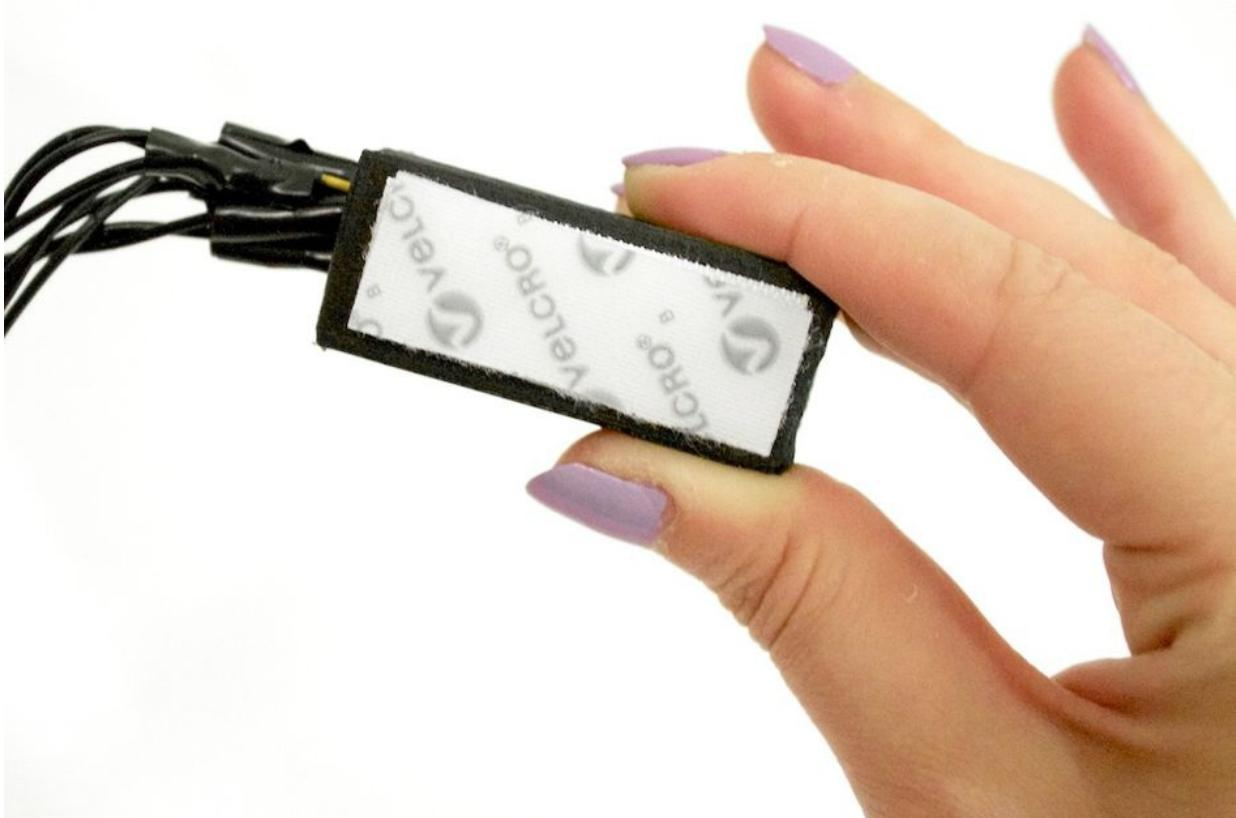

Figure 14-18. Velcro attached to bottom of the case
2. Stick the Velcro to the bottom of the Arduino case/Arduino itself, as shown in Figure 14-18.